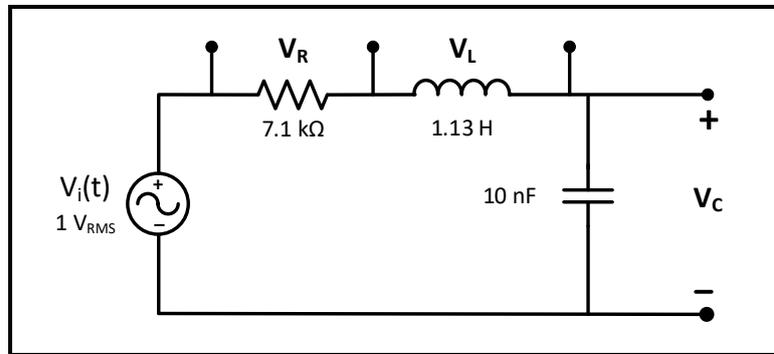

Figure 11.5
1. Connect the circuit of Figure 11.5, with a sinusoidal input voltage at $1 V_{RMS}$, use decade box for R.